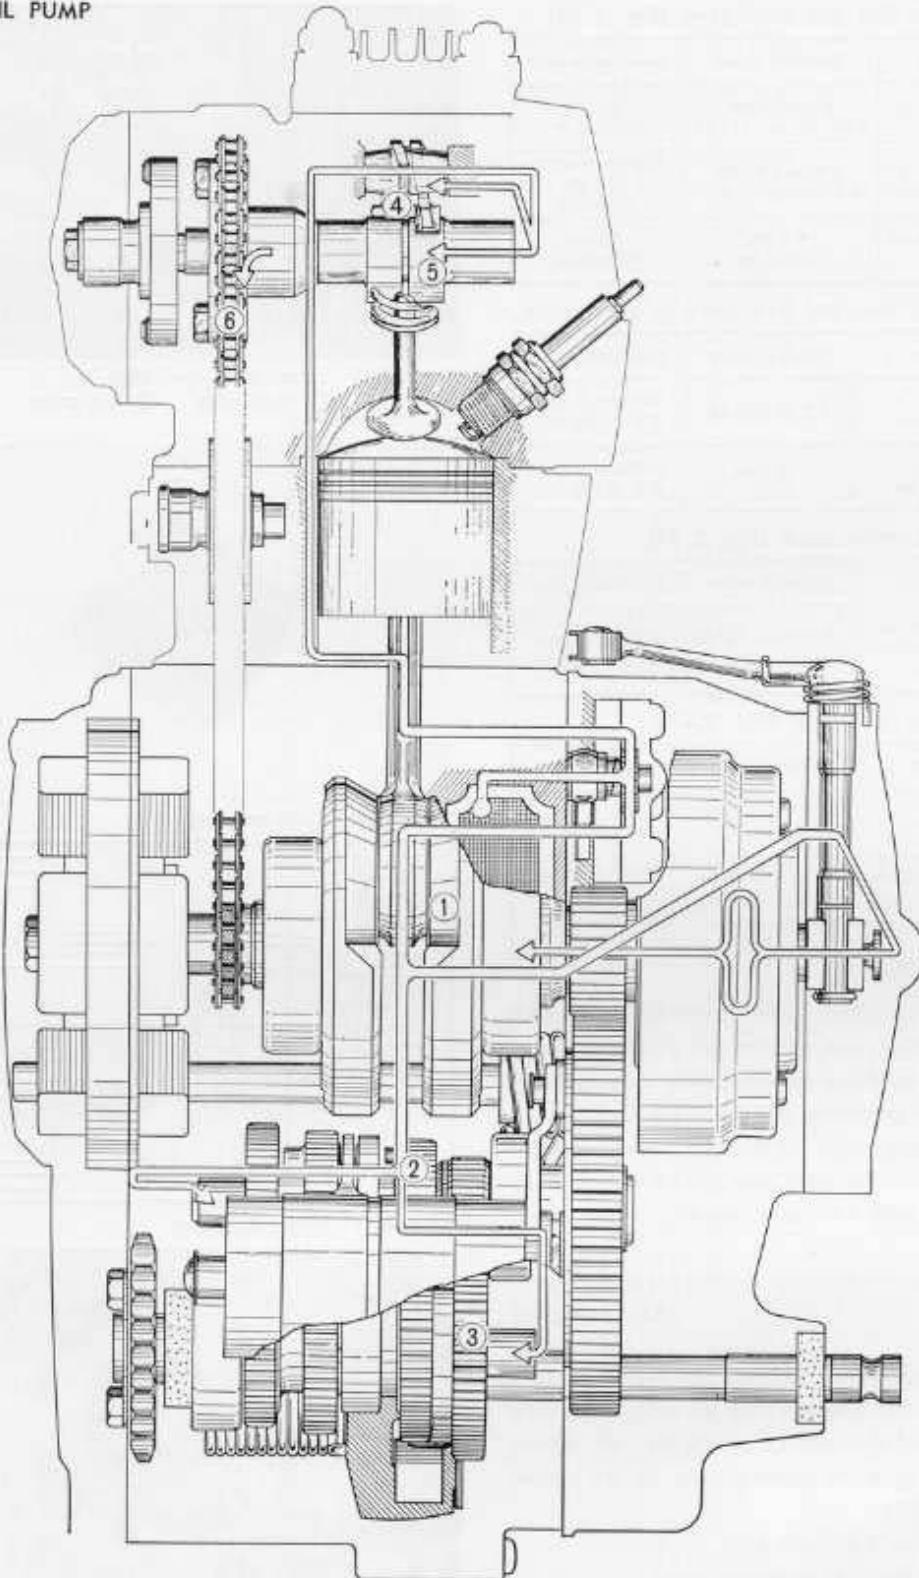

Fig. 3.73 Flow of lubricating oil
The other route: the oil is piped through the passages in the right crankcase and the crankcase cover where it is further branched so that one of the route lubricates the crankshaft and component parts; and the other is routed to the hollow in the camshaft where the moving parts within the cylinder head such as the rocker arm ④, camshaft ⑤, and lubricates the cam chain ⑥ on its way back to the sump. The moving parts such as gears, bearings which are not lubricated by pressure are lubricated by oil splash and spray. (Fig. 3.73)